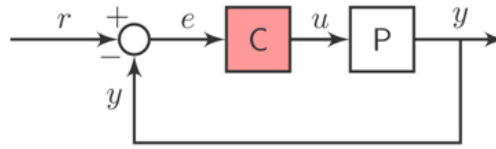

Figure 1: Standard negative unity feedback system
- (3 points) A proposed hypersonic plane would climb to 100,000 feet, fly 3,800 miles per hour, and cross the Pacific in 2 hours. Control of the aircraft can be represented by the system in Figure 1, with  $C(s) = 1$  and
- (3 points) In Figure 1, assume a proportional-only controller with gain  $K$ . Use MATLAB to generate the root locus plot for each one of the following plant transfer function as the proportional gain  $K$  varies from 0 to  $\infty$ .
- In Figure 1, assume a proportional-only controller, i.e.  $C(s) = K$ , and
4. (5 points) Suppose, in Figure 1,